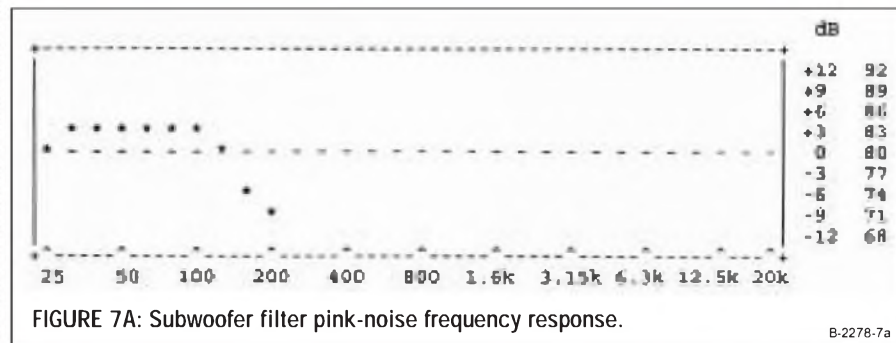

FIGURE 7A: Subwoofer filter pink-noise frequency response.
*Figure 7a* is the pink-noise response curve for the subwoofer filter. If the servo is working properly, it will cause